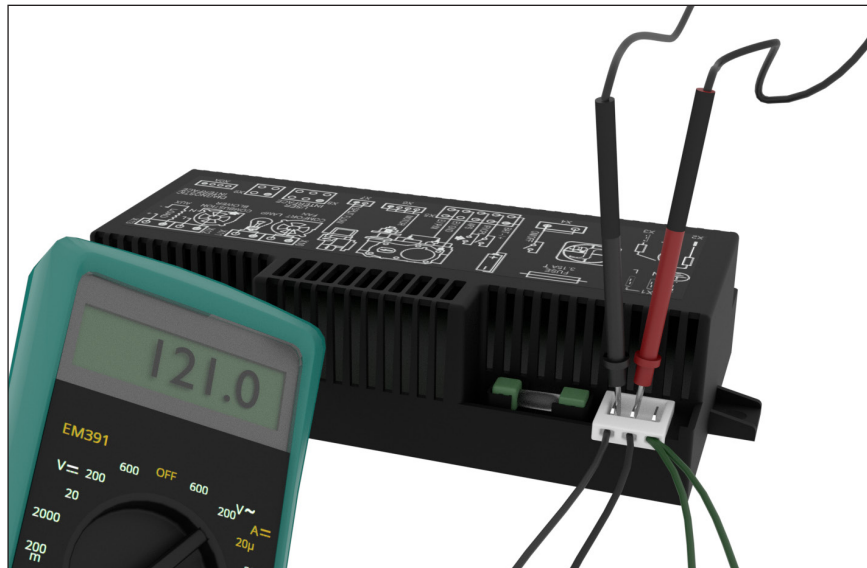

Figure 8: IFC Power Test - Probing Points
2. **CAREFUL – DANGER OF SHOCK.** Test power at X1 - Red probe to N-Neutral terminal, black probe to Live terminal (see Figure 8). Proper reading approximately 120VAC.